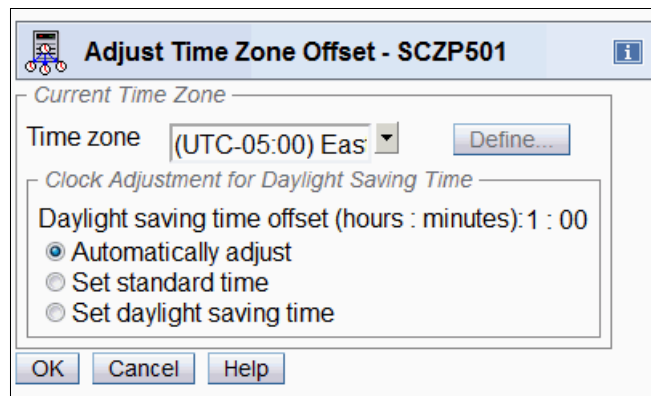

Figure 9-43 System (Sysplex) Time: Adjust Time Zone Offset Panel
- b. In the Adjust Time Zone Offset panel (Figure 9-43), select a time zone (we selected **UTC-05:00 Eastern Time**) and click a daylight saving time offset option (we selected **Automatically adjust**). Click **OK**.